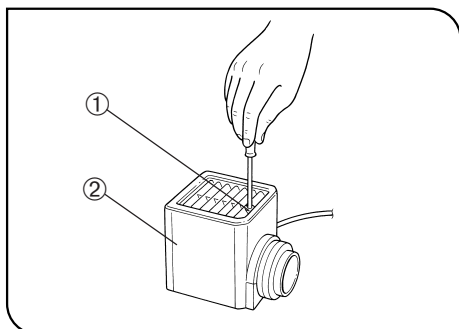

Fig. 40
1 Installing the Halogen Bulb (Figs. 40 - 42)
5. Slide the lamp housing cover onto the housing base from the above. Tighten the clamping screw ① while pressing downward on the cover. (Fig. 40)